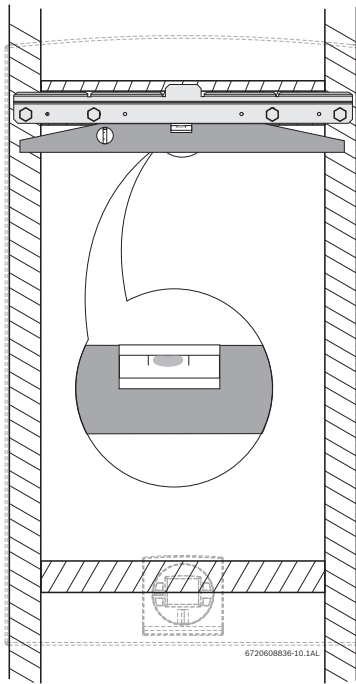

Fig. 27 Leveling wall mounting bracket
- ▶ Secure the wall mounting bracket provided with the heater to a wall surface. The heater must be kept level on the wall surface, see Fig. 27, page 26.